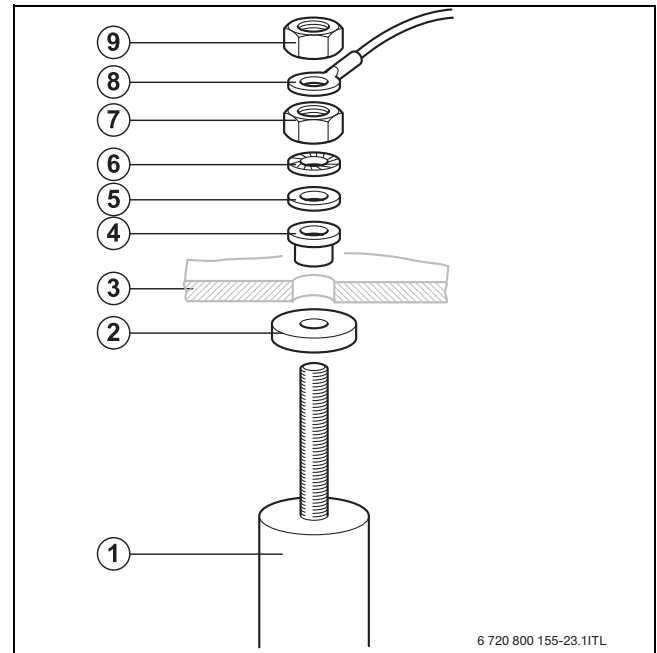

Fig. 21 Replacing the magnesium anode
- Install new magnesium anode with the aid of the hardware provided (→ Fig. 21).